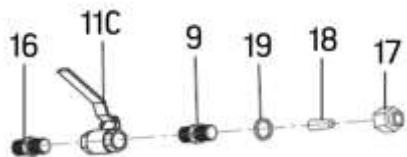

Fig. 5
9. To assemble the nozzle assembly, accomplish the following (Fig. 5):